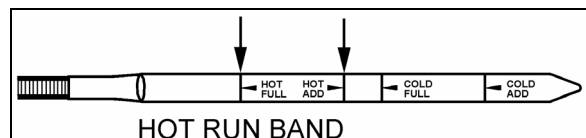

FIGURE 6: HOT CHECK
2. Park the vehicle on a level surface and shift to Neutral (N). Apply the parking brake and allow the engine to idle (500 - 800 rpm).
5. If the level is **not** within this band, add or drain fluid as necessary to bring the level within the HOT RUN band. (Fig. 6).